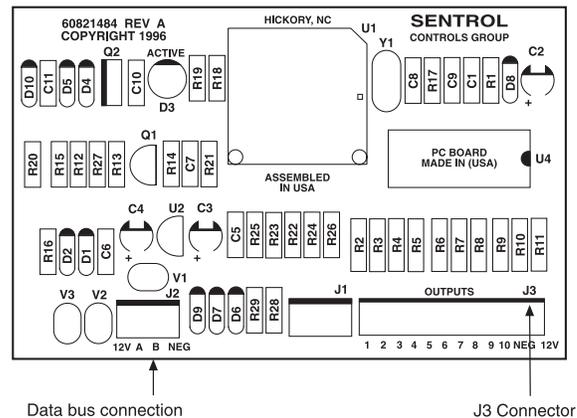

Figure 5 ZXODM Wiring Diagram
The ODM comes defaulted from the factory as ODM1. You may use multiple ODMs provided that power restrictions are followed. All ODMs must be addressed as ODM1 and they all will provide identical outputs. Connect the ODM to the control as shown in Figure 5. Use the twelve (12) wire cable provided with the ODM for the outputs as shown.